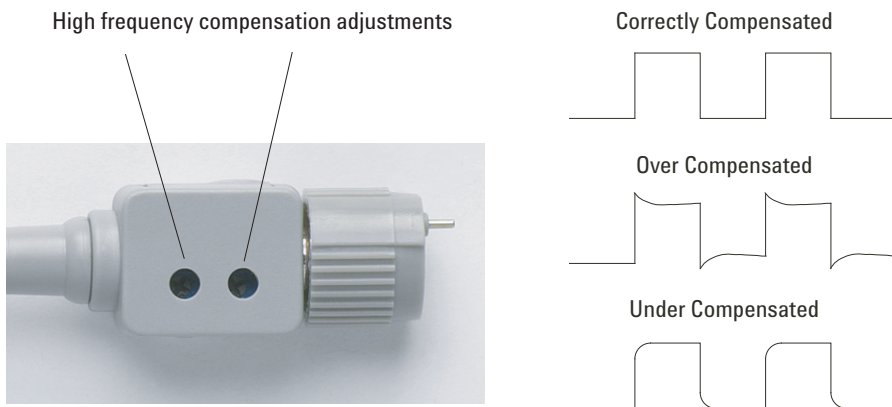

Figure 5 High Frequency Probe Compensation
- 4 If waveform does not appear like the Correctly Compensated waveform shown in **Figure 5**, then use a nonmetallic tool to adjust the 2 high frequency compensation adjustments on the probe for the flattest square wave possible.